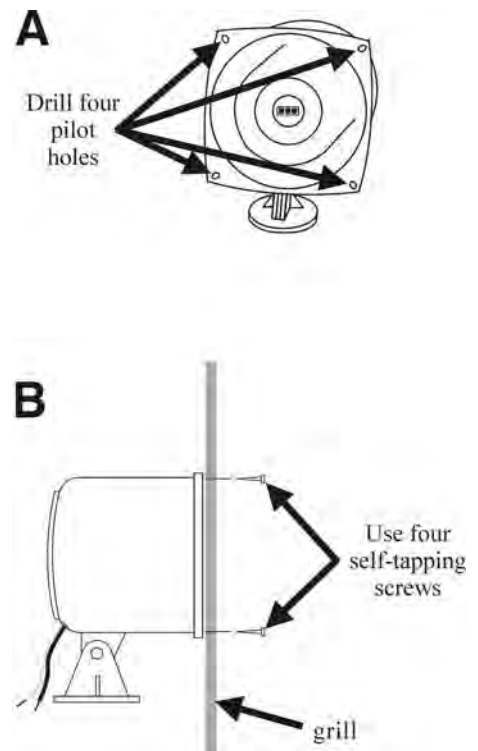

Figure 23. Installing the SP2000A
- Drill four $\frac{1}{8}$ inch (3.2 mm) pilot holes at the spots shown in Figure 23 A, in the flange of the SP2000A.
- Hold the SP2000A flush against the inside of the speaker grill, with the four pilot holes on its flange directly over the four holes drilled through the grill speaker. From the outside of the speaker grill, drill the four enclosed self-tapping screws through the drilled holes in the speaker grill and through the SP2000A flange at each pilot hole, as shown in Figure 23 B.